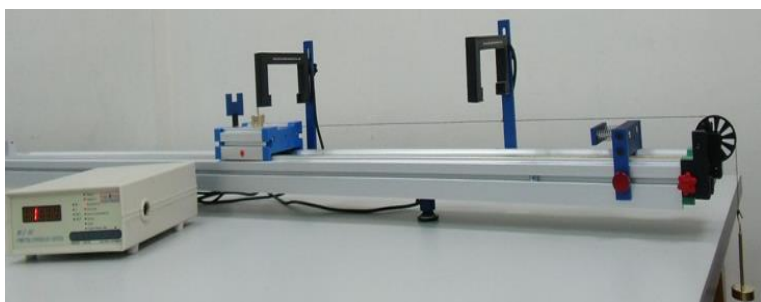
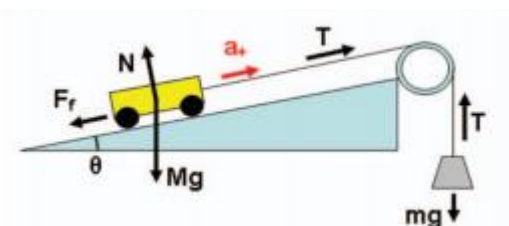

Figure 1. The experimental setup.
Figure2. Schematic of the experiment
- (i) During the experiment, you will have the apparatus consisting of a cart of unknown mass  $M$ , situated on a track, connected by a thread to a hanging mass  $m$ , as shown in Fig. 1. When the cart is released, the cart accelerates, the pulley turns, and the multi-functional counter with two photodetectors will measure the speeds of the cart at two different positions, which gives you the acceleration of the cart. The track is tilted by a small unknown angle  $\theta$ , where friction is small but significant, illustrated in Fig. 2.
1. Set up the equipment, as shown in Fig. 1.